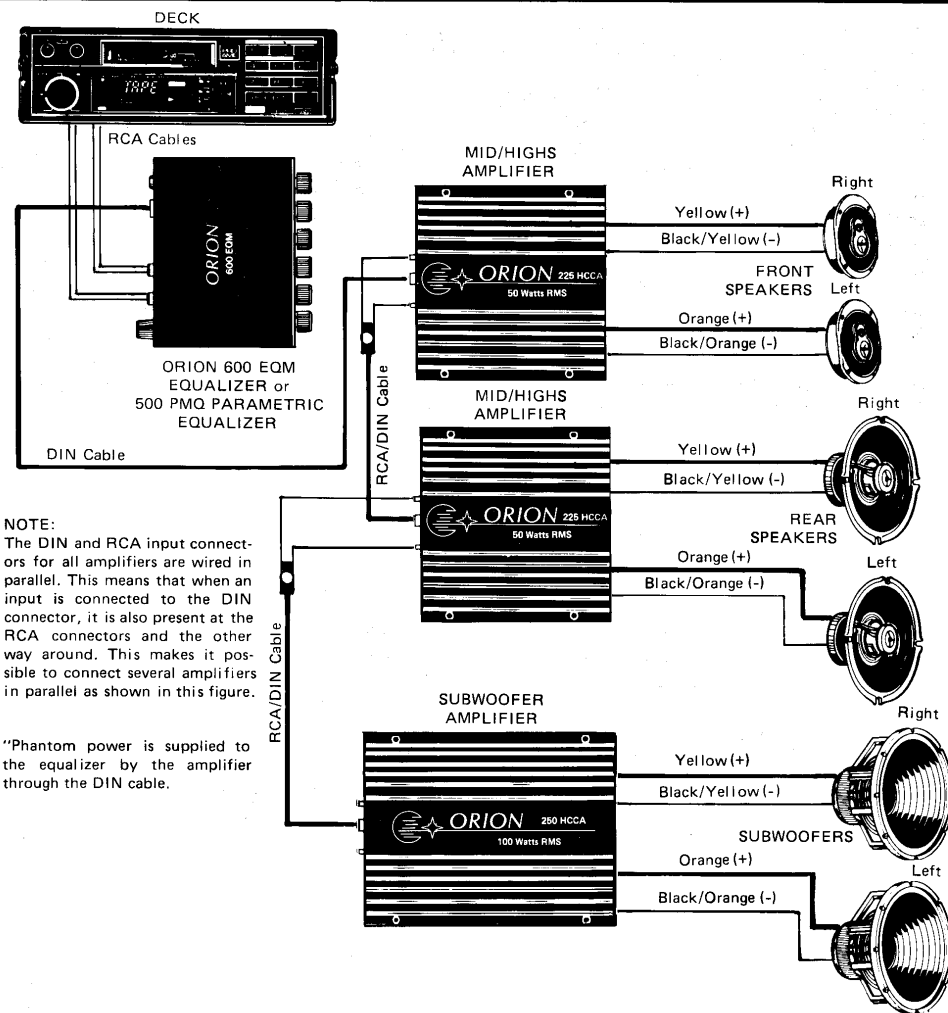

Figure 4. Typical Way of Adding Subwoofers to a System
(3) Adding Subwoofers. For added punch, you could add a couple of subwoofers to the system as shown in figure 4. This will give you the most coherent and natural sound. In this system, a pair of midrange/tweeter speakers are located in the front (usually in the top of the dash), and a midrange/tweeter speaker is located in each rear door or side panel. The subwoofers are installed in the rear. *This does not mean that the passengers seated in the rear will be overcome by the bass. Low frequency sound waves tend to wrap around the interior such that they are perceived as coming from all directions.*